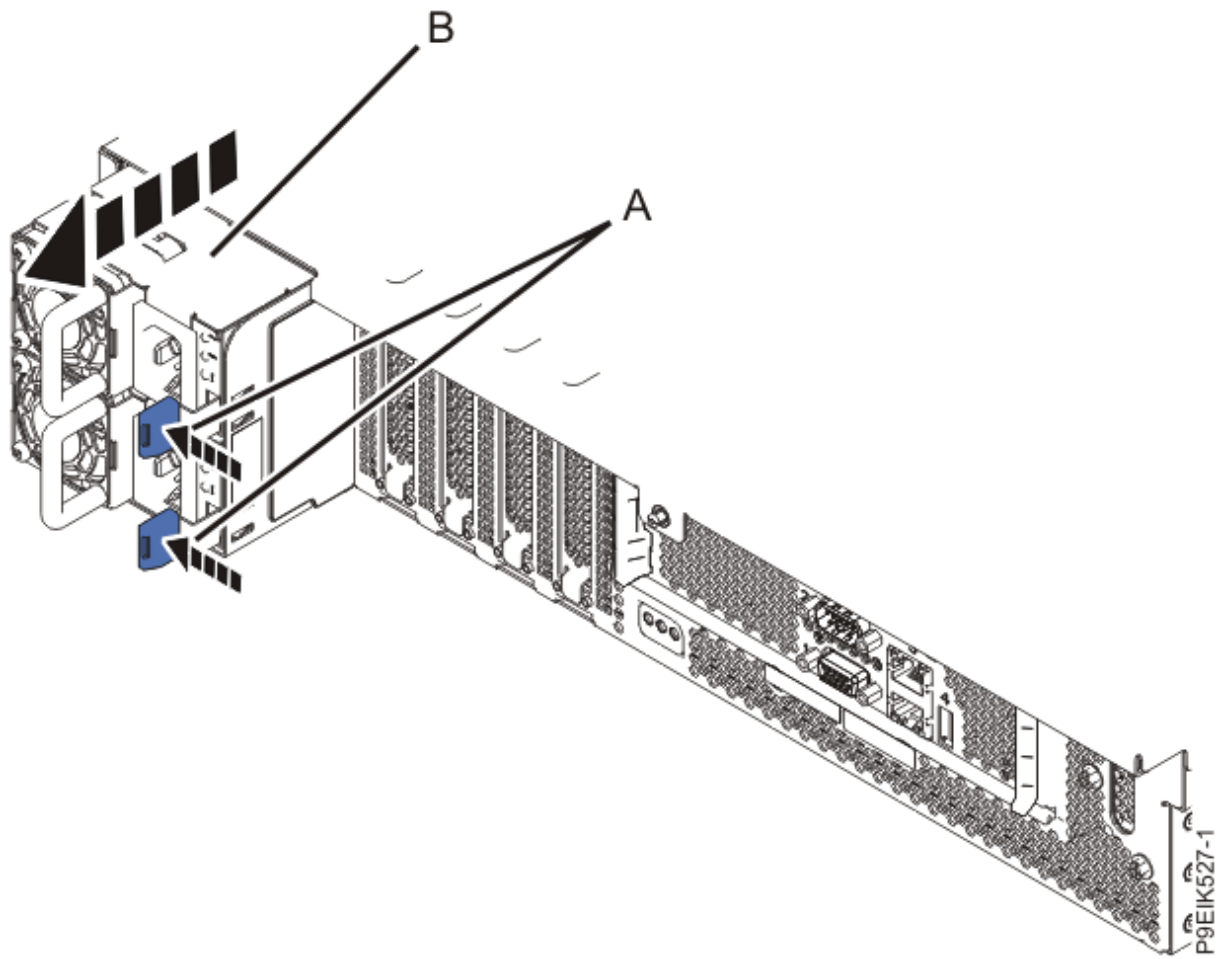

Figure 161. Removing the power supplies from the system
5. Remove the power supplies from the system as shown in Figure 161 on page 178.